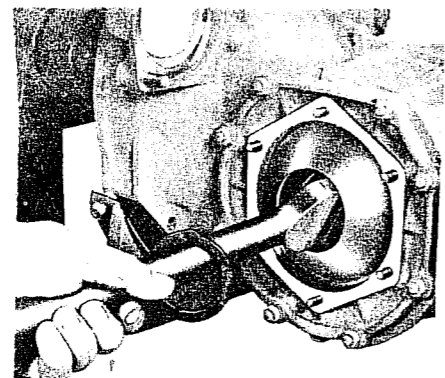

Fig. F.9. Withdrawing the axle shaft. - Swing axle.
8. Take out the thrust washer behind the circlip and then pull out the axle shaft (Fig. F 9).